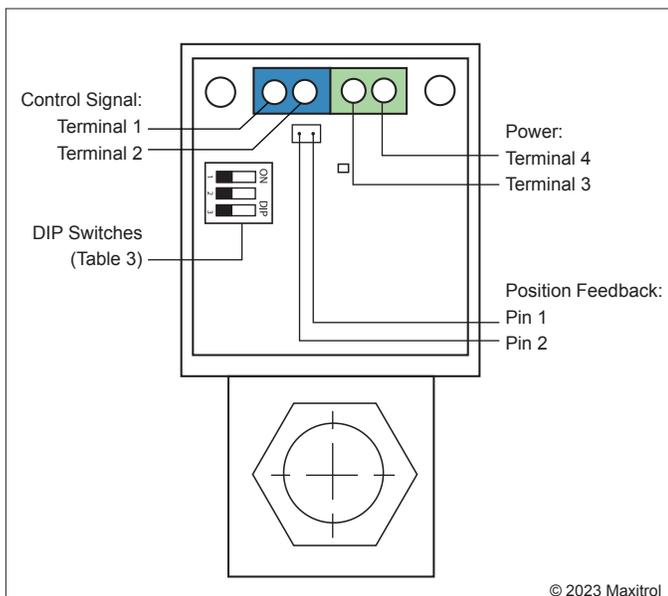

Figure 2: EXA Modulating Valve Series Connections
There are six (6) electrical connections on the EXA valve. Two (2) are for power, two (2) are for the control signal, and two (2) are for position feedback (see figure 2, page 2).
A three (3) position DIP switch is located on the PCB (see Figure 2). Change the signal type and offset by changing the position of DIP switches. (For DIP switch position and corresponding current/voltage ranges, see Table 3).
Pin 2: (-) negative polarity (see Figure 2)
- Step 3: Connect switched OFF 24V (AC/DC) power source to terminals 3 and 4. Note polarity when using a DC power source or if one leg of an AC transformer secondary is externally grounded or is sharing power with another half-wave device (see figure 2, page 2).
- Step 5: Connect control signal to terminals 1 and 2. Observe polarity. Note that the return, or signal ground, must be connected to terminal 2 (see figure 2, page 2).